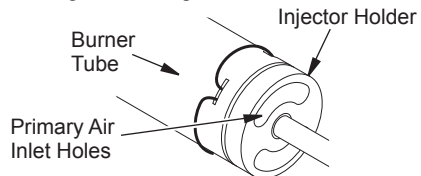

Figure 28 - Injector Holder On Outlet Burner Tube - Rear Burner
2. Inspect burners, pilot, and primary air inlet holes on injector holder for dust and dirt (see Figures 28 or 29).